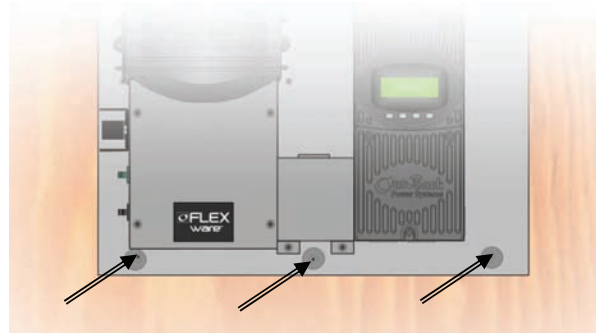

Figure 10 Attaching the Mounting Plate to the Mounting Bracket
4. Lift the Mounting Plate above the Mounting Bracket. Slip the top of the Mounting Plate over the angled lip of the Mounting Bracket. See Figure 10 on page 23.
5. Secure the lower back flange of the Mounting Plate to the wall (with appropriate hardware), using the rear flange slots as shown in Figure 10 on page 23.